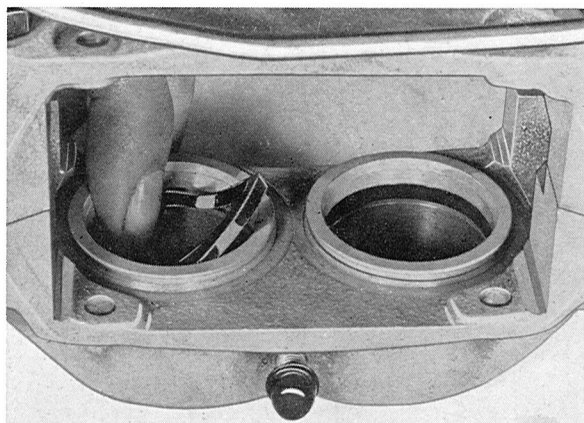

Fig. 5-27. Fitting the sealing ring
2. Fit new sealing rings in the cylinders, see Fig. 5-27.
2. Fit the new sealing rings in the cylinders, see Fig. 5-27.